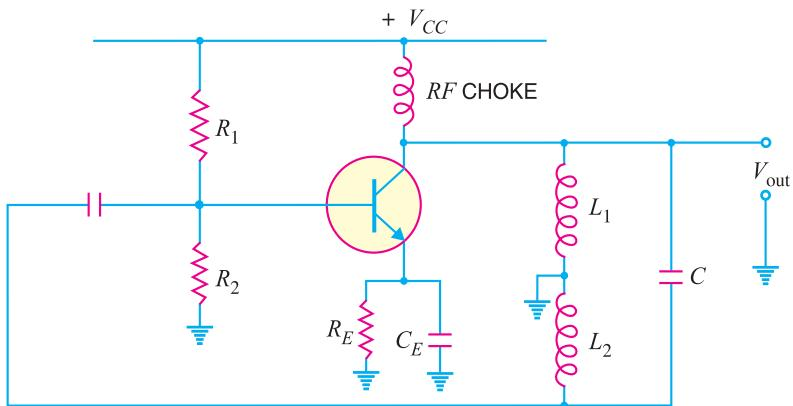

Fig. 14.25
2. Figure 14.25 shows the Hartley oscillator. If $L_1 = 1000 \mu\text{H}$, $L_2 = 100 \mu\text{H}$ and $C = 20 \text{ pF}$, find the (i) operating frequency and (ii) feedback fraction.
4. For the Hartley oscillator shown in Fig. 14.25, $C = 250 \text{ pF}$, $L_1 = 1.5 \text{ mH}$, $L_2 = 1.5 \text{ mH}$ and $M = 0.58 \text{ mH}$. Determine the operating frequency. [159.2 \text{ kHz}]